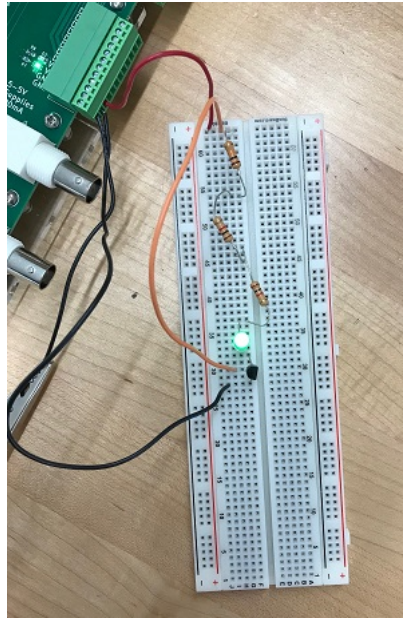

Figure 17: Closed MOSFET gate with lit up LED on breadboard
- For the gate voltage source, I attached a jumper wire to the same row on the breadboard the power jumper wire was inserted into. This also acted as the switch, which I would 'close' by inserting into a terminal on the same row as the gate leg of the MOSFET. Figure 17 shows the gate closed and the LED on via this connection.
2. When I unconnect the top end of the gate voltage source from the power rail and leave it in the air, the LED stays on, but decreases significantly in brightness. Figure 17 shows the small light in the LED.